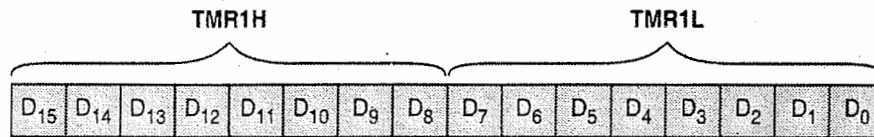

Fig. 7.4.2 : Timer 1 low and high registers
**Mode :** Timer 1 operates in 16 bit mode only. It does not support 8 bit mode like Timer 0. Fig. 7.4.2 shows Timer 1 registers.